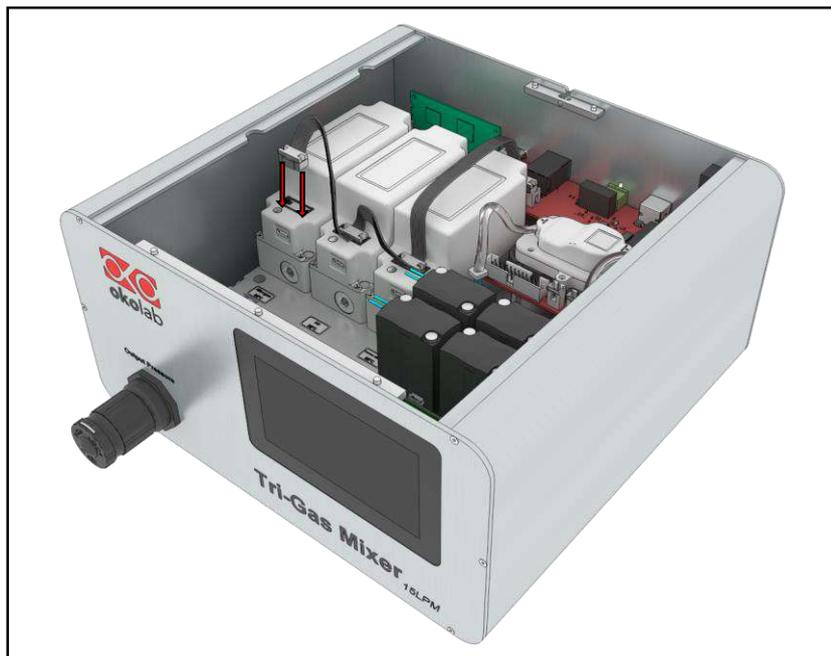

Figure 136. Ribbon cable connection
6. Connect the ribbon cable to the Mass Flow Controller (see Figure 136).